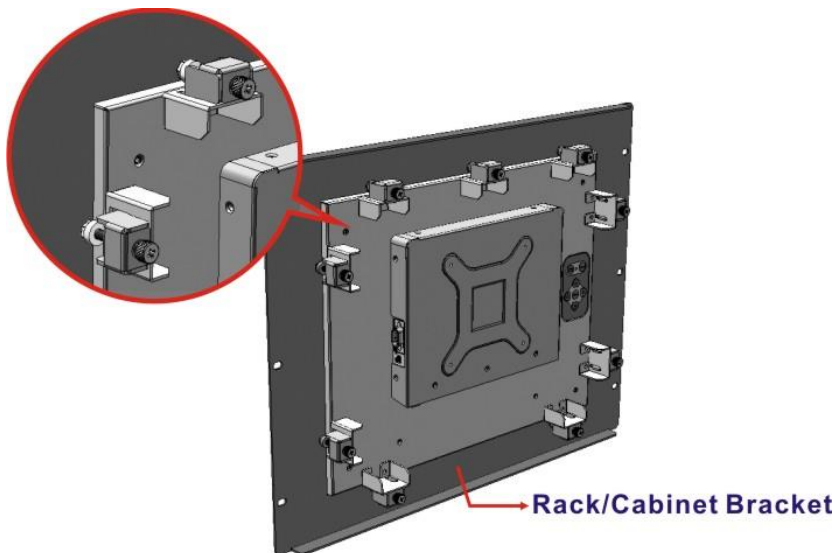

Figure 3-33: Secure the Rack/Cabinet Bracket
Step 3: Insert the panel mounting clamps into the pre-formed holes of the clamp holders (Figure 3-33).
Step 4: Tighten the screws that pass through the rack mounting clamps until the plastic caps at the front of all the screws are firmly secured to the bracket (Figure 3-33).